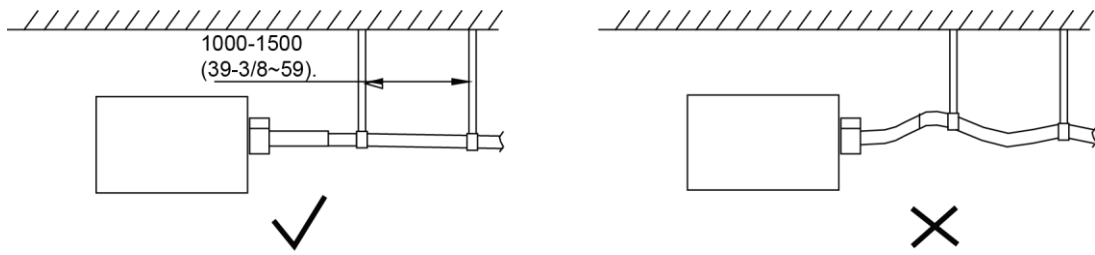

Fig. 18
- Drain pipes should have a downward slope of at least 1%~2%. To prevent pipes from sagging, install hanger brackets at intervals of 1000 ~ 1500 mm (39-3/8 ~ 59 in.) (Fig. 18).